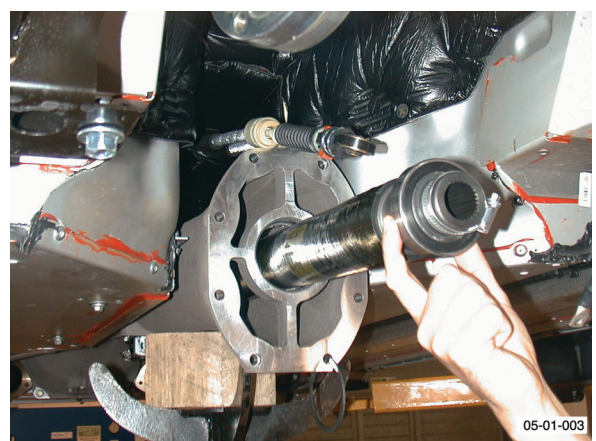

Fig. 2
7. With assistance, remove propshaft from torque tube (see Fig. 2).